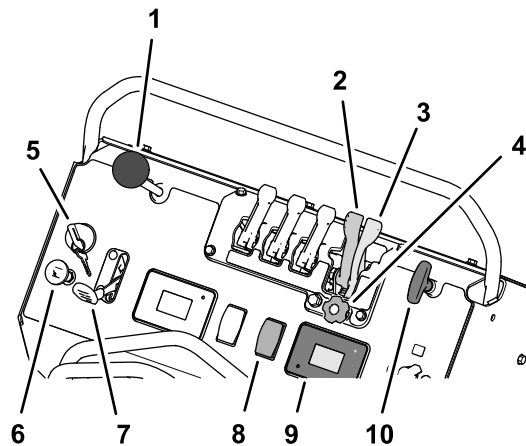

Figure 36
1. Start the engine, and adjust the throttle midway between the SLOW and the FAST positions (Figure 36).
2. Tap the top of the impeller control switch to run the impeller motor (Figure 36).